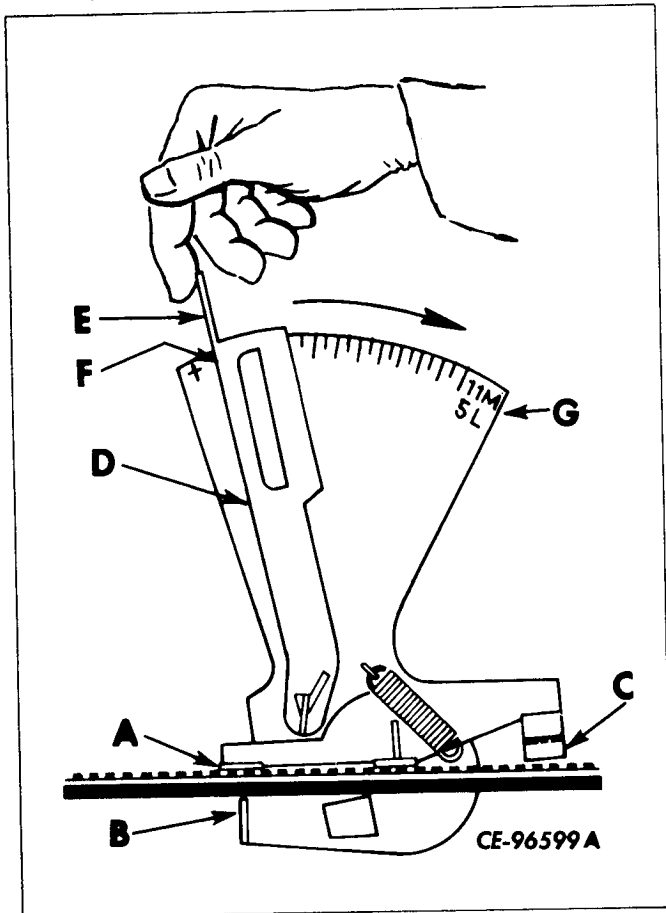

Figure 2-59
Lift tab (A, Fig. 2-59) and place meter on belt. Belt must be held securely between tabs (A, B).
Move indicator hand (D, Fig. 2-59) to its starting position, the plus (+) sign.
With end of forefinger on button at top of leaf spring (E, Fig. 2-59), pull button around top circumference of meter. Indicator hand (D) will move with leaf spring (E) as tab (C) approaches top of belt. For increased accuracy, apply a steady gradual pull.
Place a thin piece of paper between tab (C, Fig. 2-59) and belt to establish contact by drag felt when paper is moved between tab (C) and belt.
When tab (C, Fig. 2-59) just touches top of belt and a slight drag is felt on paper, release pressure on button of leaf spring (E). Indicator hand (D) will stay in place so that belt tension can be read.
Read belt tension in pounds at left side (F, Fig. 2-59) of indicator hand (D) on top scale (G) (corresponding to 11M and 5L section belts) and adjust belt if necessary.
NOTE: If leaf spring (E, Fig. 2-59) is subjected to a jerky motion, erroneous reading may result. Return the gauge to its starting point and recheck using a steady gradual pull.
NOTE: Accuracy of "Gates 150 Tensiometer" is dependant on leaf spring (E, Fig. 2-59) only. Abuse of this spring must be avoided.